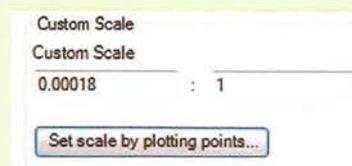

Fig 54: Scale
- Click OK. In the Document Properties dialog, the calculated scale displays as the value for Custom Scale (Figure 54).